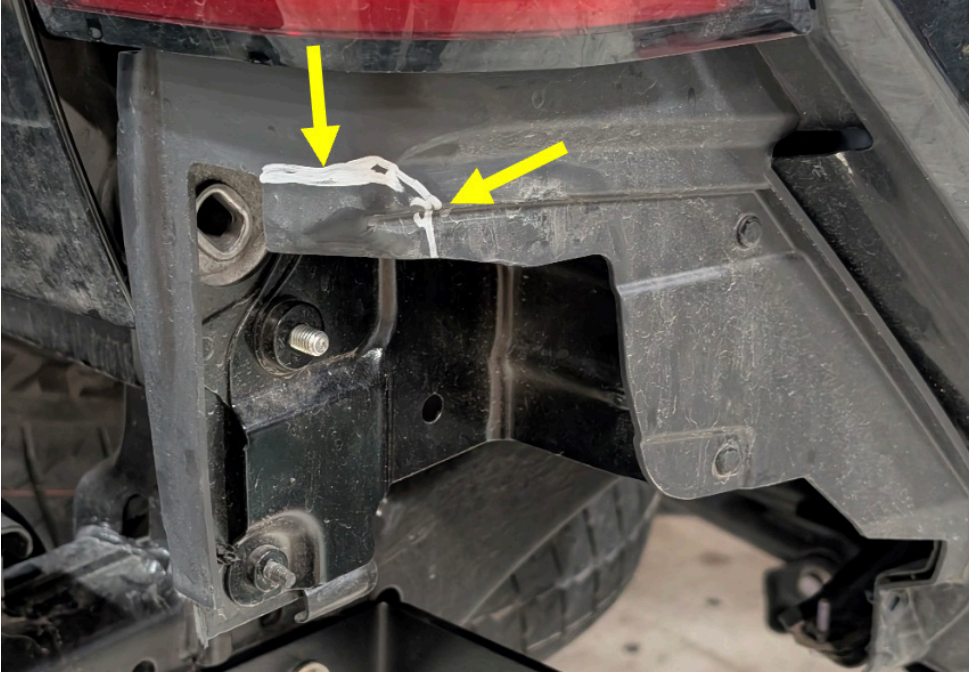

Figure 16
15. Using a cutting tool, trim the plastic shroud underneath the taillight as shown in Figure 16.